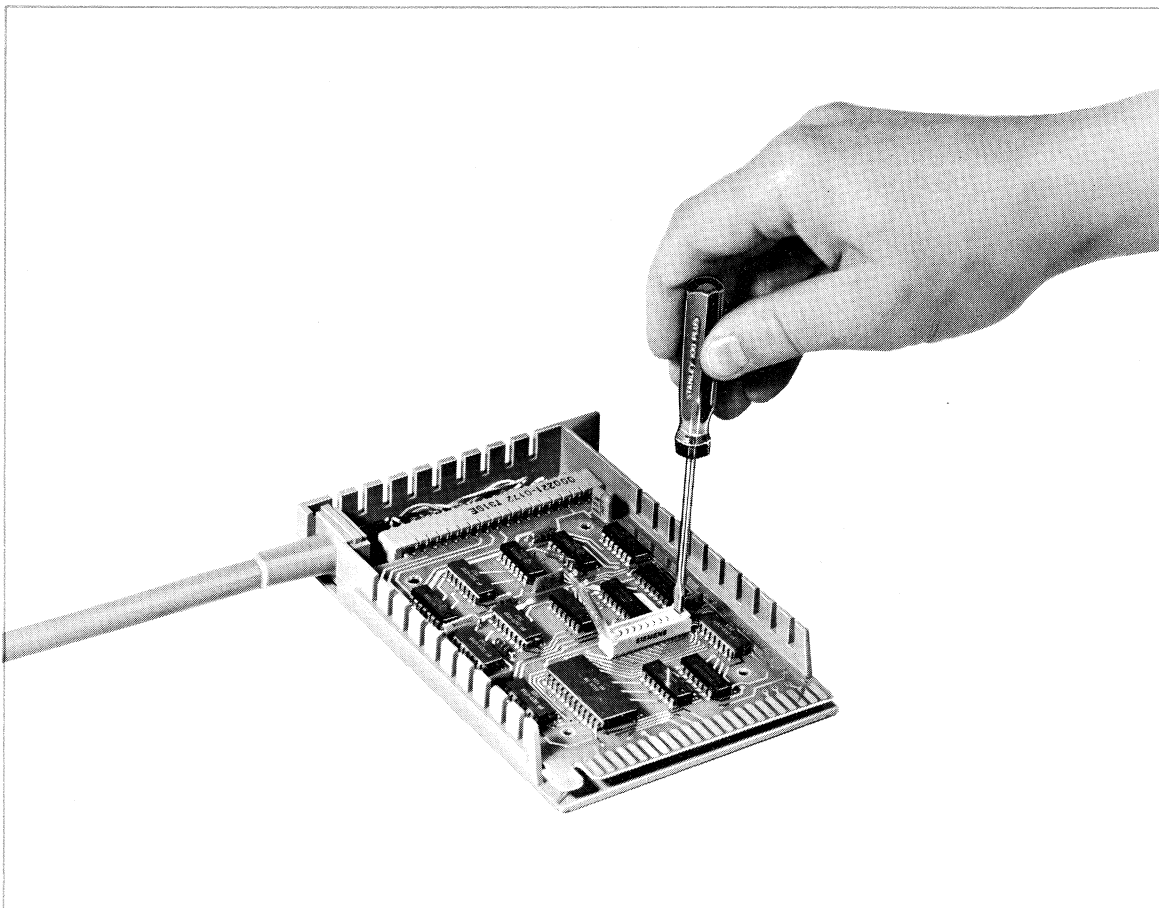

Figure 1—1. Setting the Select Code
- Locate the select code switch (see figure 1—1). Raise the hinged cover on the switch. Using a small, flat-blade screwdriver, carefully rotate the selector-tab until it is positioned at the desired select code number. Numbers are printed on the side and on the top cover of the switch ('0' is unusable). Before closing the cover, be sure the slot in the selector-tab is at a right angle to the length of the switch.